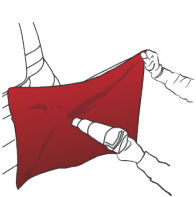
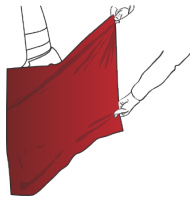
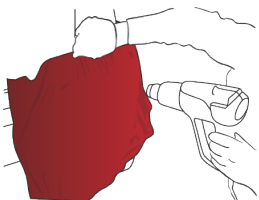

Figure 20
Figure 21
Figure 24
- › Heat the vinyl (FIG. 20) to a temperature ranging from 30 °C to 40 °C (from 86 °F to 104 °F), then stretch the film so as to completely wrap the convex surface. (FIG. 21)
- › After this operation, heat to a temperature ranging from 30 °C to 40 °C (from 86 °F to 104 °F) (FIG. 24) and work the memory effect of the film to eliminate all folds using the squeegee.
**!** *Take particular care when heating the stretched film (FIG. 20) (FIG. 24). The hot air gun or the gas torch must never be held at a right angle to the surface of the film. It should be inclined so as to heat a larger surface area. Keep the hot air gun moving all the time. Heating the film from a reduced distance and over a prolonged time may irreversibly damage the film.*